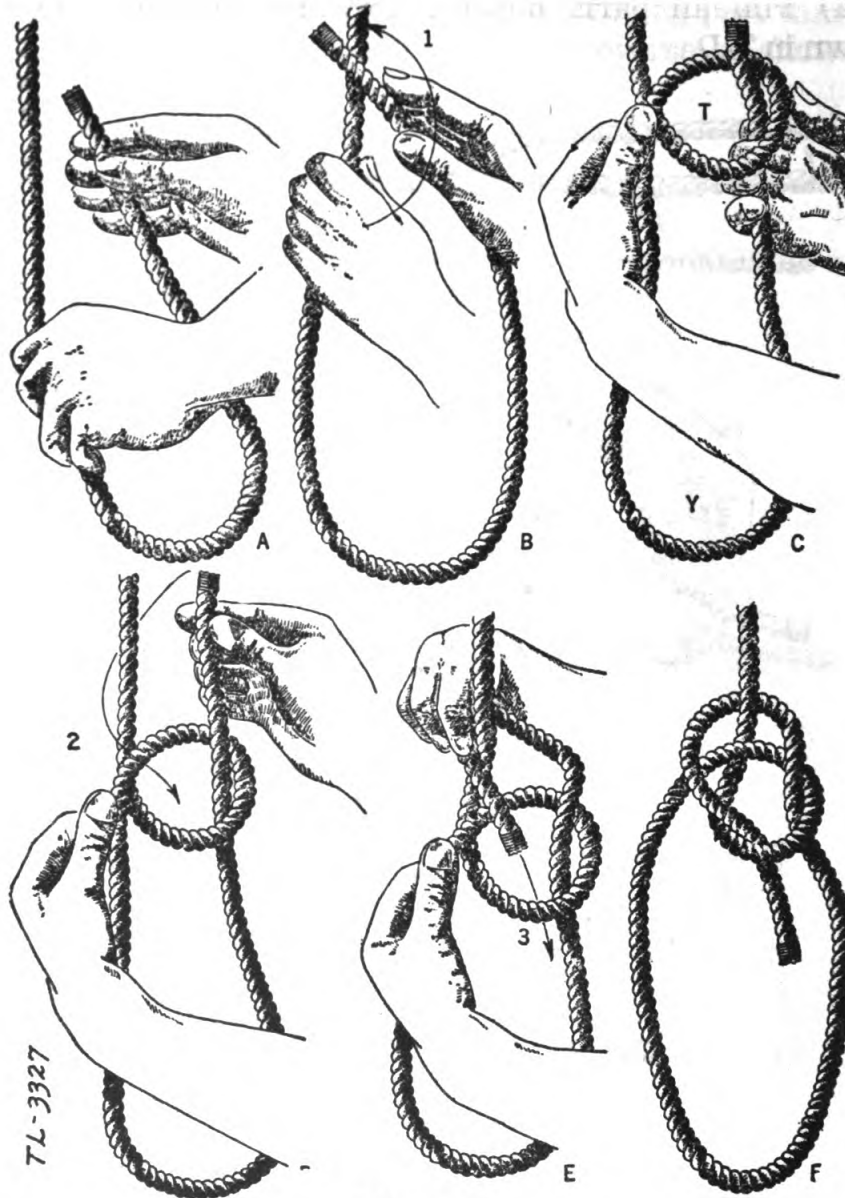

Figure 8
e. Single bowline at the end of a rope, not attached to an object.—This knot is used for attaching a rope to the hook of a block or joining the ends of ropes of different sizes. See figure 8.
(1) Grasp the standing part of the rope with the left hand, at a point where the turn *T* is desired. This position is determined from the size of the bight *Y*, required. Hold the free end in the right hand.
(2) Move the right hand forward and lay the free end across the standing part of the rope, above the left hand, with sufficient end to complete the subsequent turns. Hold the right hand stationary and bring the left hand upward and forward as indicated by the arrow 1.
(3) Just as the left hand is passing the right, turn the right hand palm up, which will result in the formation of a loop in the standing part of the rope, with the end of the rope projecting up through it.
(4) Grasp the free end with the right hand and move it forward.
(5) Pass the free end around and behind the standing part of the rope from right to left, as indicated by the arrow 2, then pass the free end forward and down into the turn again, from above, as indicated by the arrow 3.
(6) Draw all parts down tight. The completed knot is shown in figure 8-F.